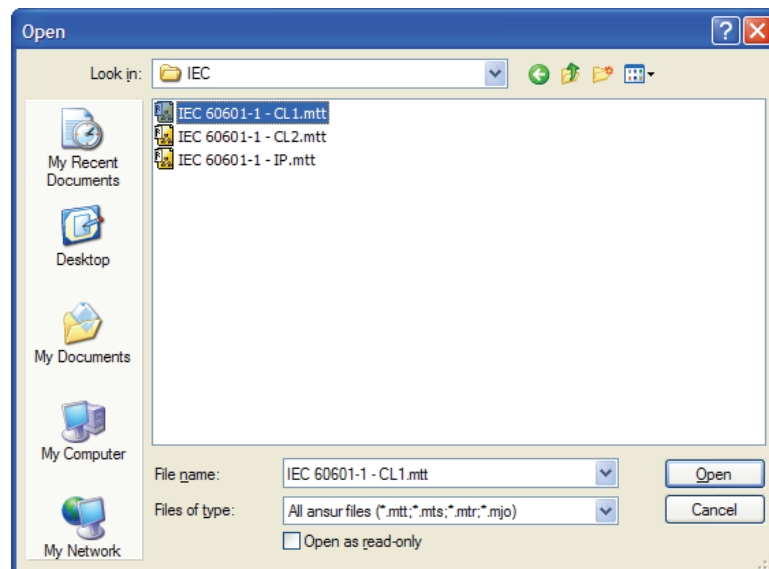

Figure 3-3. Selecting a Ready-Made Test Template
3. Double-click the ESA620 folder to open a dialog box that lists the folder names of the most common medical standards and regulator boards as shown in Figure 3-3.